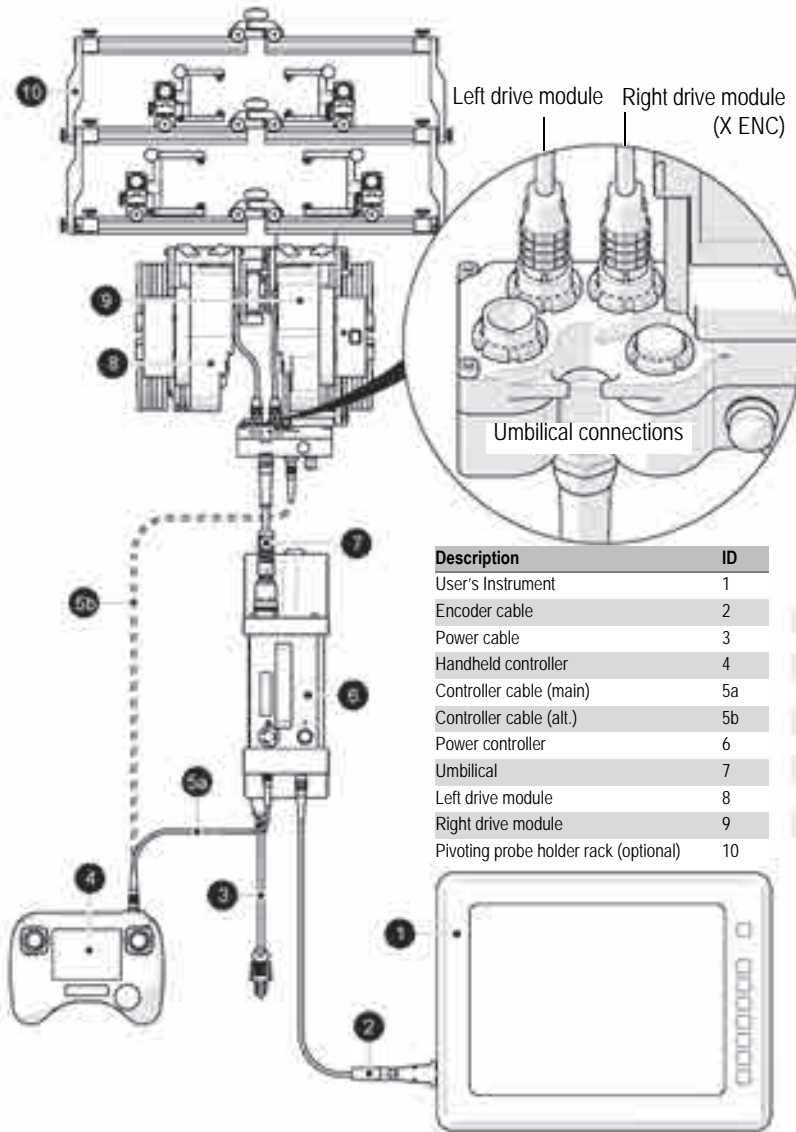

Figure 2-4 Pivoting probe holder rack (optional) configuration
1. Connect the power controller to the umbilical (see Figure 2-4 on page 50).